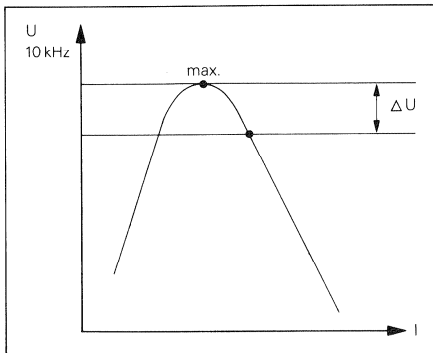

Fig. 6.4.—13
- Set operating controls as per fig. 6.4.—14.
- Connect audio millivoltmeter to OUTPUT L or R (51) respectively.
- Connect audio generator to AUX INPUTS (48) in parallel.